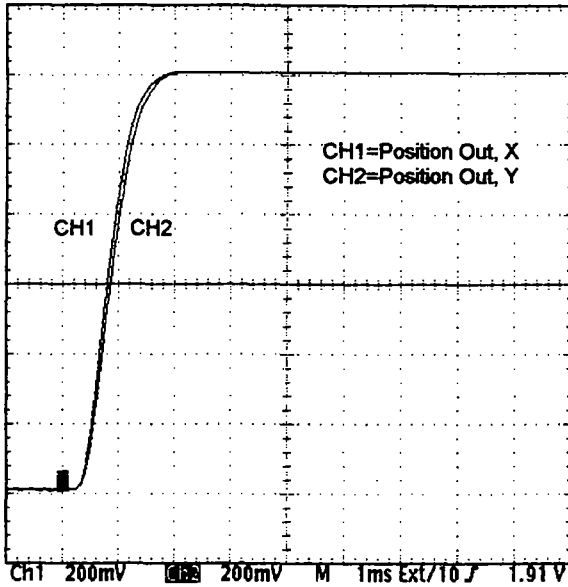

Figure 30.
5. Input a 2° signal again. Now monitor both channels' Position Out signals superimposed on one another on the oscilloscope. Increase the vertical gain and sweep speed on the oscilloscope until the speed difference between the two channels is noticeable. See Figures 30 and 31.